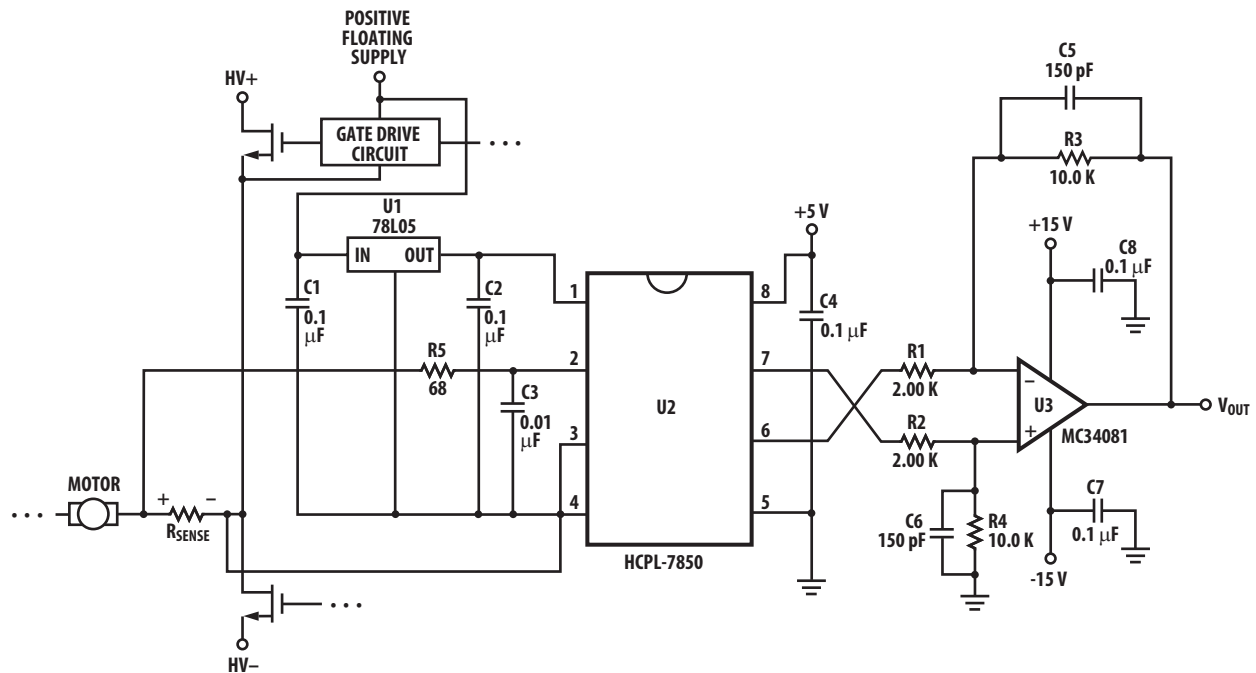

Figure 24. Recommended Application Circuit.
8. CMR (also known as IMR or Isolation Mode Rejection) specifies the minimum rate of rise of a common mode signal applied across the isolation boundary at which small output perturbations begin to occur. These output perturbations can occur with both the rising and falling edges of the common mode waveform and may be of either polarity. A CMR failure is defined as a perturbation exceeding 200 mV at the output of the recommended application circuit (Figure 24). See Applications section for more information on CMR.
The recommended application circuit is shown in Figure 24. A floating power supply (which in many applications could be the same supply that is used to drive the high-side power transistor) is regulated to 5 V using a simple three-terminal voltage regulator (U1). The voltage from the current sensing resistor, or shunt (R_{sense}), is applied to the input of the HCPL-7850 through an RC anti-aliasing filter ($R5$, $C3$). And finally, the differential output of the isolation amplifier is converted to a ground-referenced single-ended output voltage with a simple differential amplifier circuit (U3 and associated components). Although the application circuit is relatively simple, a few recommendations should be followed to ensure optimal performance.
As shown in Figure 24, a 0.1 μ F bypass capacitor ($C2$, $C4$) should be located as close as possible to the input and output power supply pins of the HCPL-7850. The bypass capacitors are required because of the high-speed digital nature of the signals inside the isolation amplifier. A 0.01 μ F bypass capacitor ($C3$) is also recommended at the input pin(s) due to the switched-capacitor nature of the input circuit. The input bypass capacitor should be at least 1000 pF to maintain gain accuracy of the isolation amplifier.
The recommended method for connecting the isolation amplifier to the shunt resistor is shown in Figure 24. Pin 2 (VIN+) is connected to the positive terminal of the shunt resistor, while pin 3 (VIN-) is shorted to pin 4 (GND1), with the power-supply return path functioning as the sense line to the negative terminal of the current shunt. This allows a single pair of wires or PC board traces to connect the isolation amplifier circuit to the shunt resistor. In some applications, however, supply currents flowing through the power-supply return path may cause offset or noise problems. In this case, better performance may be obtained by connecting pin 3 to the negative terminal of the shunt resistor separate from the power supply
The recommended application circuit (Figure 24) includes a post-amplifier circuit that serves three functions: to reference the output signal to the desired level (usually ground), to amplify the signal to appropriate levels, and to help filter output noise. The particular op-amp used in the post-amp is not critical; however, it should have low enough offset and high enough bandwidth and slew rate so that it does not adversely affect circuit performance. The offset of the op-amp should be low relative to the output offset of the HCPL-7850, or less than about 5 mV.
To maintain overall circuit bandwidth, the post-amplifier circuit should have a bandwidth at least twice the minimum bandwidth of the isolation amplifier, or about 200 kHz. To obtain a bandwidth of 200 kHz with a gain of 5, the op-amp should have a gain-bandwidth greater than 1 MHz. The post-amplifier circuit includes a pair of capacitors (C5 and C6) that form a single-pole low-pass filter. These capacitors allow the bandwidth of the post-amp to be adjusted independently of the gain and are useful for reducing the output noise from the isolation amplifier (doubling the capacitor values halves the circuit bandwidth). The component values shown in Figure 24 form a differential amplifier with a gain of 5 and a cutoff frequency of approximately 100 kHz, and were chosen as a compromise between low noise and fast response times. The overall recommended application circuit has a bandwidth of 66 kHz, a rise time of 5.2 μ s and a delay to 90% of 8.5 μ s.